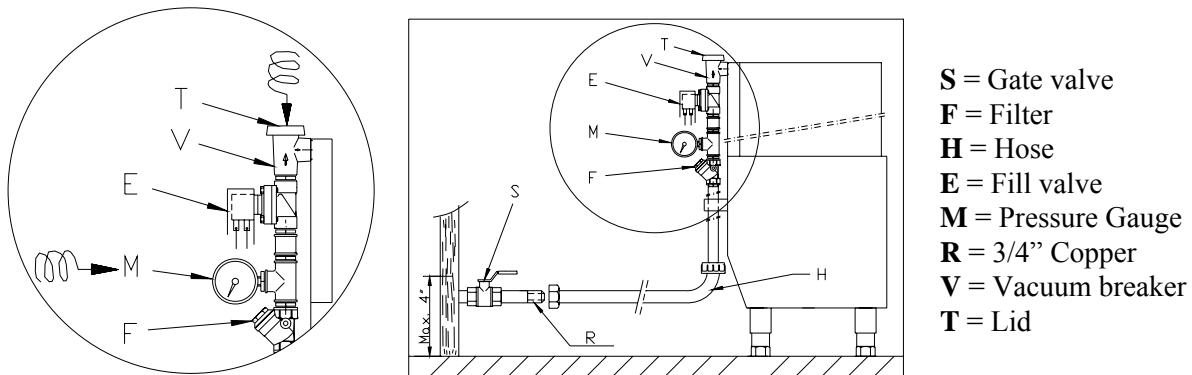

Fig. 3
- 1) FIT THE PRESSURE GAUGE (M) IN ITS POSITION. (Fig. 3) Use Teflon Tape over the thread to prevent leaks.
- 2) PLACE THE THREADED CAP (T) once adhesive tape has been removed from the vacuum breaker (v). Turn clockwise (Fig.3).
- 3) INSERT SOLENOID VALVE (E) IN ITS POSITION AND PUSH IT UNTIL YOU LISTEN A "CLICK" AND SOLENOID IS FIXED. NOW CONNECT THE WIRING TO THE SOLENOID AND TIGHTEN THE SCREW. FIT BLACK GASKET BETWEEN SOLENOID AND WIRING PLUG.
Water installation is carried out as shown in figures 3 and 4. The hot water line to the dishwasher must provide between 20 ±5 psi water pressures. The hot water heater should be set to deliver ≥140°F water temperatures to the dishwasher for best results. Use 3/4" copper tubing inlet line.